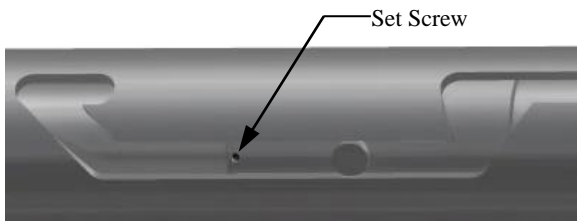

Fig. 7
K-1.18) Move J-body (20) as needed to access threaded holes in J-pin bottom sub (23) (Fig. 7). Screw set screws (22) into J-pin bottom sub (23).